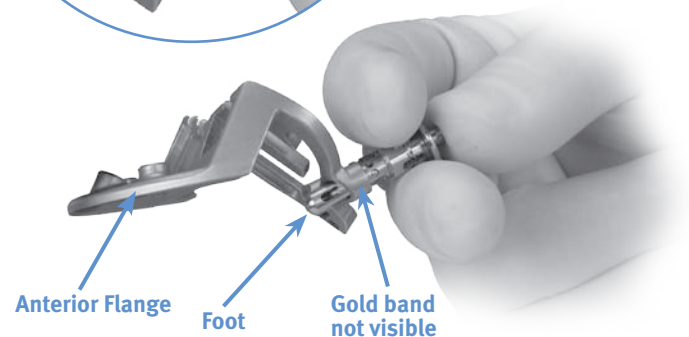

Fig. 19
- Depress and hold the spring-loaded button while pulling up or down on each foot until each foot is in the “set” position (Fig. 19).